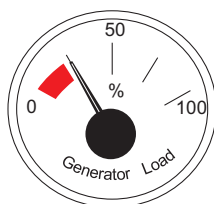

Figure 58. Generator Load Gauge
14. Verify that the **generator load gauge** (Figure 58) reads the anticipated percentage of load. It is recommended the load be above the red area (20%) for maintaining sufficient exhaust temperature.